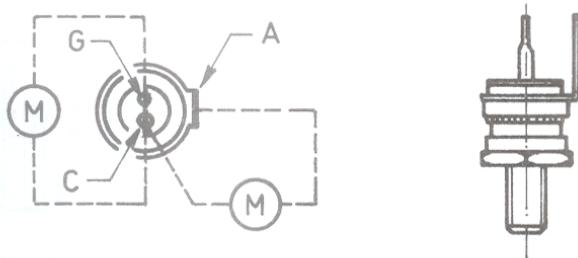

FIGURE 1b
- 12.4.4 If main input fuses 10FU and/or 14FU blow (14FU only provided on 230V controls), the problem may be defective SCRs. Temporarily disconnect the connection to the two discrete SCRs, or the power cube module on 1.9 HP controls, and check the SCRs. Refer to Sections 14.2 and 14.3, and also Figures 1b and 1c. Replace defective SCRs.
The discrete SCRs are isolated stud devices. The red wire to each device is the anode. The yellow wire is the cathode and the green wire is the gate. Simple tests with an ohmmeter cannot conclusively show than an SCR is good, but shorted or open SCRs can be detected. Check one SCR at a time by removing the 3 leads of the SCR connected to the E1508 PC board. Reconnect the three leads which are color coded to the PC board before proceeding to check the other SCR. Refer to Figure 1b.